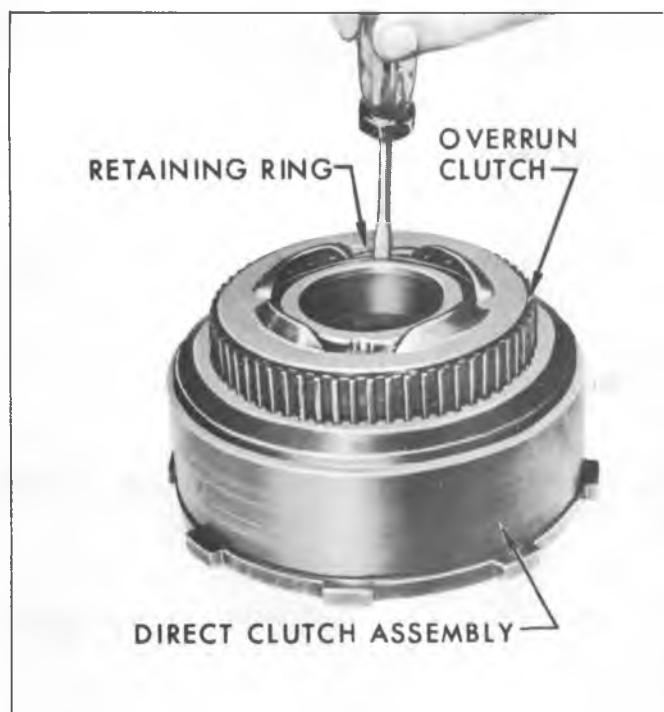

Fig. 69M--Removing Overrun Clutch Retaining Ring and Retainer
1. Remove intermediate overrun clutch drum front retaining ring and retainer (fig. 69M).